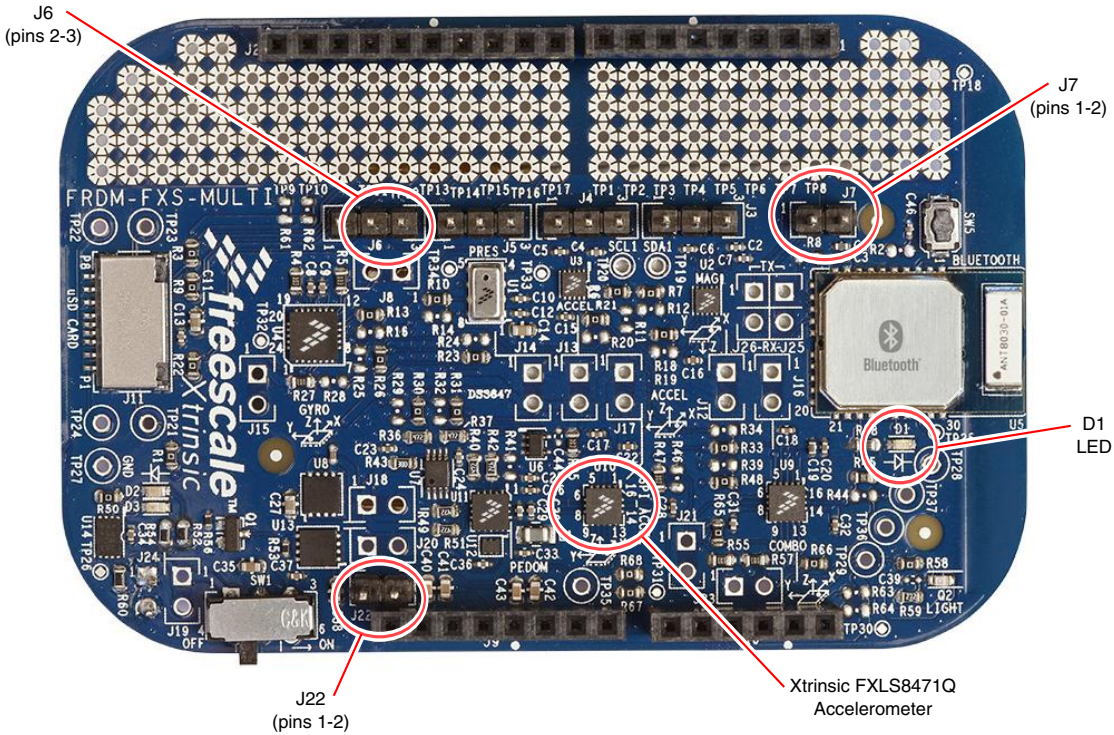

Figure 2. FRDM-FXS-MULTI-B top view
3. Connect header J6 pins 2–3 using a jumper. See Figure 2.
- b. Move SW1 to ON to use battery power (the battery will be automatically charged whenever there is a hard-wired connection). See Figure 2.